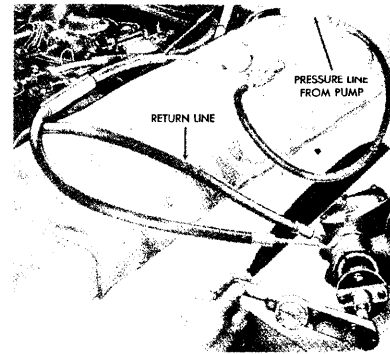

FIG. 27—Pressure Gauge Installed G1206-A
17. To adjust the centering spool, connect a 0-2000 psi pressure gauge between the car pump pressure line and the inlet port (upper hole) in the gear (Fig. 27).